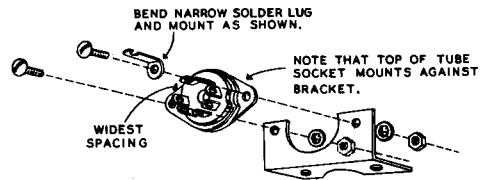
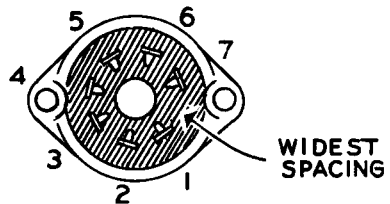

Fig. 2
Fig. 3
- () Mount the small solder lug and the tube socket on the tube mounting bracket by means of 3-48 screws, lockwashers, and nuts. See Figure 2 and Figure 7. Make certain that the widest spacing between pin holes (see Figure 3) is as shown in Pictorial 1.
- () Bend the small solder lug as shown in Figure 2 and Figure 7.